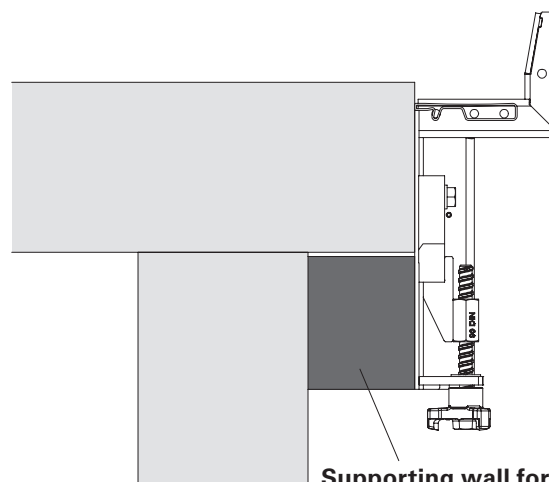

Fig. A2.07
- The wall formwork bracket must cover the entire surface. The stability of the wall formwork bracket should be supported if necessary. (Fig. A2.07)